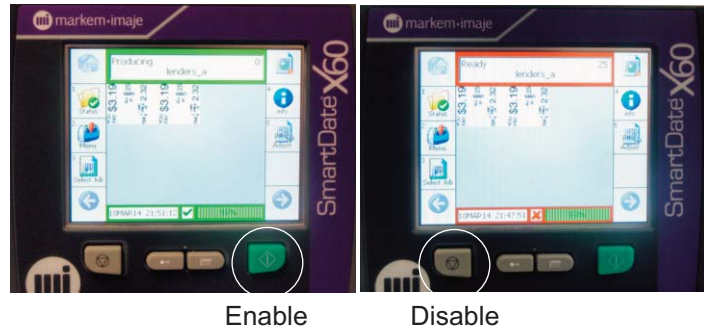

Figure 3.1
B. ENABLING AND DISABLING THE PRINTER: FIGURE 3.1
10. Press the green "**ENABLE**" button (Figure 3.1). The controller screen turns green indicating that the printer is now ready to print.